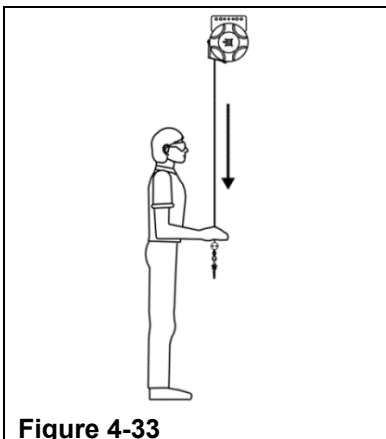

Figure 4-33
- Step 2. Pull down sharply on the cable or chain. (See Figure 4-33) If the load still does not lower, proceed to step 3.